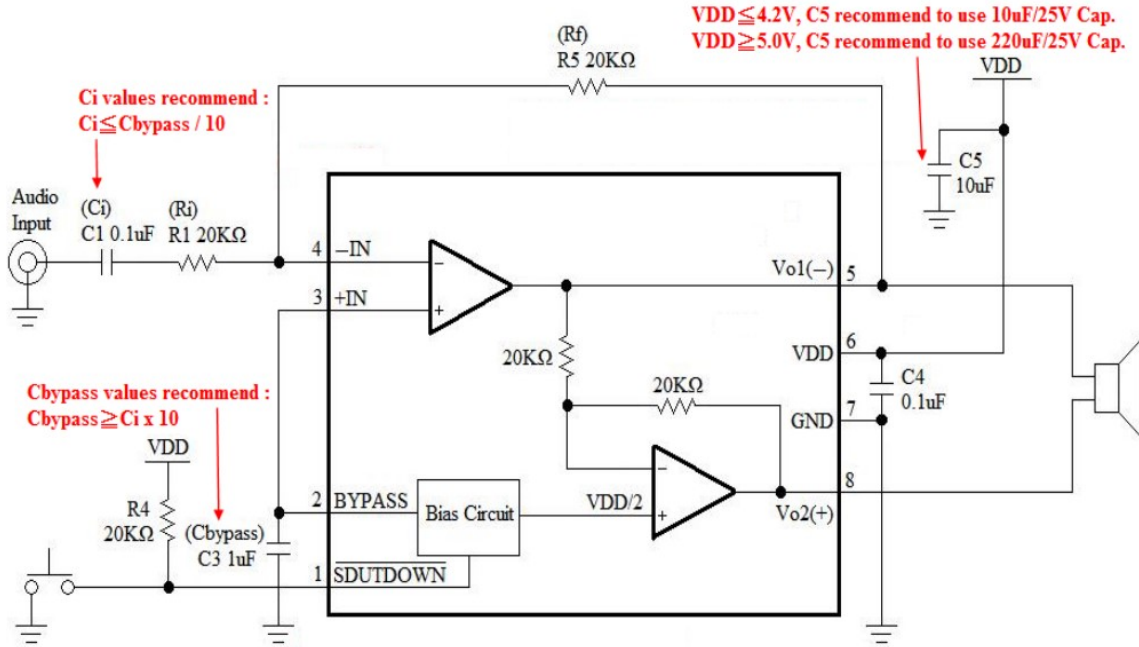

Figure 1. application schematic with Single-Ended input
**As shown in Figure 1 and 2, the AP4890U has two operational amplifiers internally, allowing for a few different amplifier configurations. The first amplifier's gain is externally configurable, while the second amplifier is internally fixed in a unity-gain, inverting configuration. The closed-loop gain of the first amplifier is set by selecting the ratio of  $R_f$  to  $R_{IN}$  while the second amplifier's gain is fixed by the two internal  $20k\Omega$  resistors. Figure 1 and 2 shows that the output of amplifier one serves as the input to amplifier two which results in both amplifiers producing signals identical in magnitude, but out of phase by  $180^\circ$ . Consequently, the differential gain for the IC is**